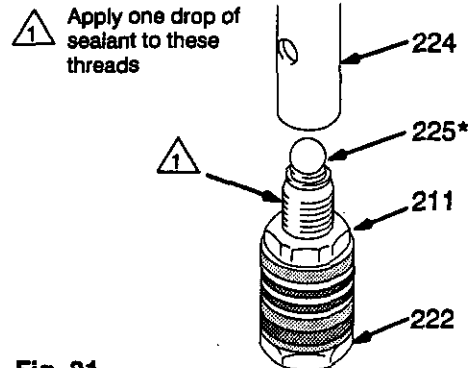
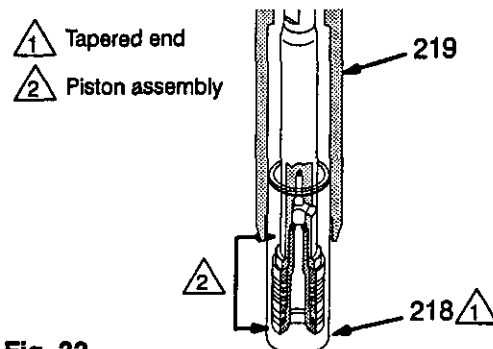

Fig. 31
Fig. 32
- Apply **ONE** drop of adhesive, supplied with the repair kit, to the piston threads. Place the ball (225*) on the piston. Hand tighten the piston into the rod (224) just until the nut (211) contacts the rod. Place the flats of the rod in a vise. See Fig. 31.
- Tighten the nut (211) onto the rod (224) to 25 N.m. Use two wrenches to maintain the alignment as mentioned in the NOTE above.
- Stack the throat packings into the top of the cylinder (219). Install the packing nut (216) loosely.
- Install a new packing (202) on top of the sleeve. Insert the piston rod assembly into the **top of the sleeve**. Slide the sleeve assembly into the **bottom of the cylinder**. Note that the tapered end of the sleeve is the bottom. See Fig. 32.